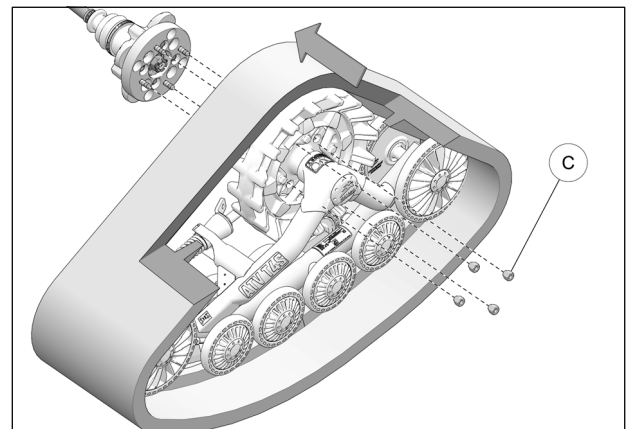

Fig. 8
8. Secure undercarriage to rear hub using the wheel nuts (C) provided. See Fig. 8